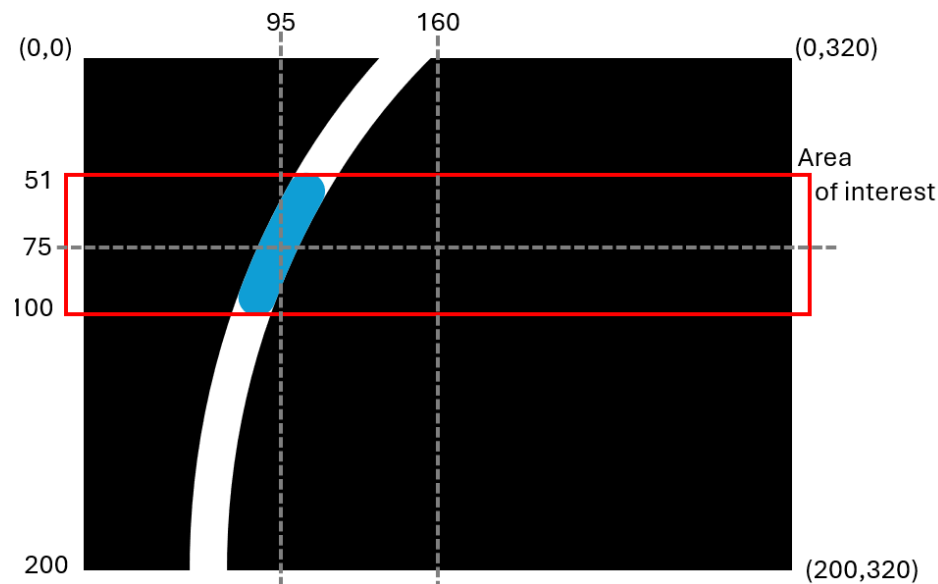

Figure 2. Image with the blob of interest in blue.
6. Using the input parameter *col*, find the *error* representing the difference between the center of the line and the center of the image, which you want to minimize. Figure 2 will help you visualize this.
7. Using the variable *angle*, find the error angle of the blob center based on the bottom center of the image. Use Figure 2 as a reference to find the correct geometric function to use.